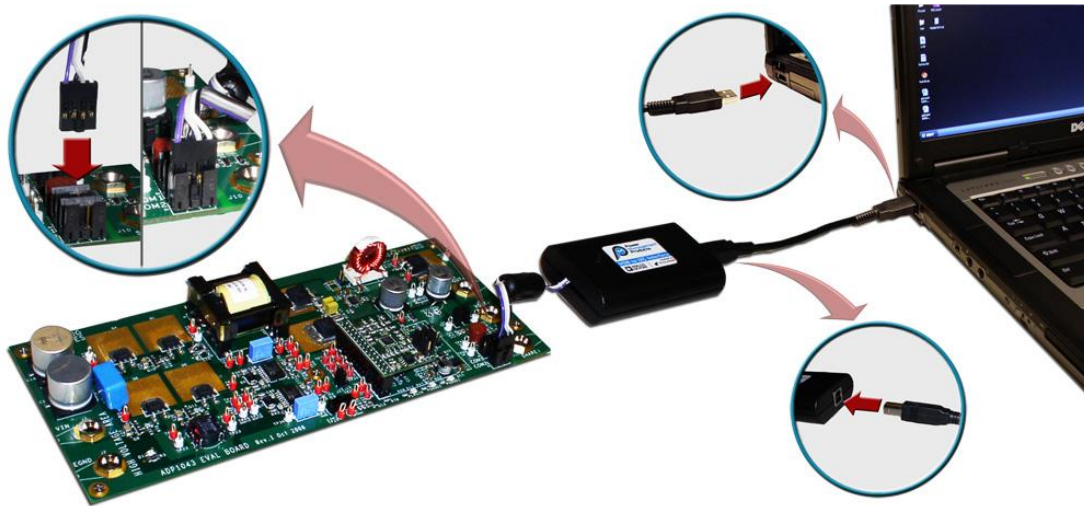

Figure 2 - Evaluation Board Setup
- 4) Connect the evaluation board to the USB port on the PC using the “USB to I2C interface” dongle as shown in Figure 2.